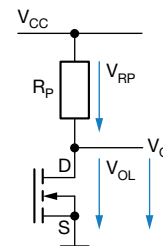

Fig. 3 - Voltage Divider
When the slave select line (SS) is pulled down to the logic “L” stage, a voltage divider is formed by the pull-up resistor (R_P) and the internal NMOS drain source junction. The output voltage (V_O) is the voltage drop of the open drain output (V_{OL}), as shown in Fig. 3.